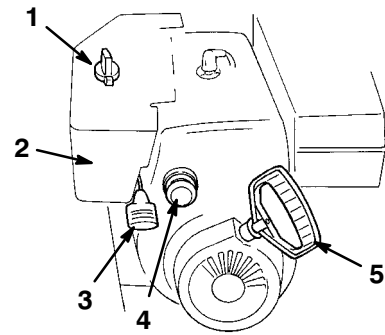

Figure 15
- **Choke** (Fig. 15)—Move the choke to the *Full* position to start a cold engine. As engine warms up, gradually move the choke to the *Off* position.
- **Ignition Switch** (Fig. 15)—Insert the key before starting the engine. To stop the engine, remove the key.
- **Throttle** (Fig. 15)—Move the throttle upward to increase the engine speed; move it downward to decrease the engine speed.
- **Primer** (Fig. 15)—Press the primer to pump a small amount of gasoline into the engine for improved cold-weather starting.
- **Recoil Starter** (Fig. 15)—Pull the recoil starter to start the engine.
2. Remove the key from the ignition switch (Fig. 15).
3. Pull the choke knob off (Fig. 15).
1. Move the throttle to the *Fast* position (Fig. 15).
4. Rotate the choke (Fig. 15) to the *Full* position.
5. Insert the ignition key (Fig. 15).
6. Cover the hole in the center of the primer (Fig. 15) with your thumb and slowly push in the primer three times, pausing after each push.
7. Grasp the recoil starter handle (Fig. 15) and pull it out slowly until positive engagement results; then pull the handle vigorously to start the engine.
9. After the engine starts, immediately rotate the choke (Fig. 15) to the 3/4 position. As the engine warms up, rotate the choke to the 1/2 position. When the engine warms up sufficiently, rotate the choke to the *Off* position.